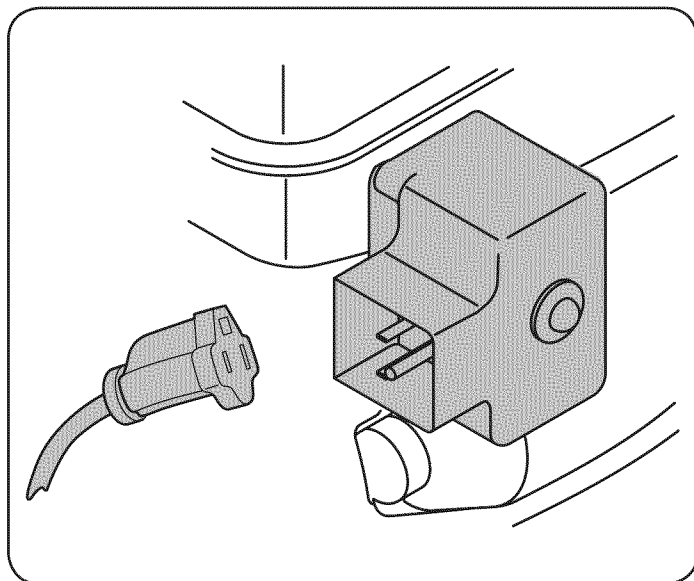

Figure 14
3. Plug an extension cord into the outlet located on the engine's surface. Plug the other end of extension cord into a three-prong 120-volt, grounded, AC outlet in a well-ventilated area. See Figure 14.